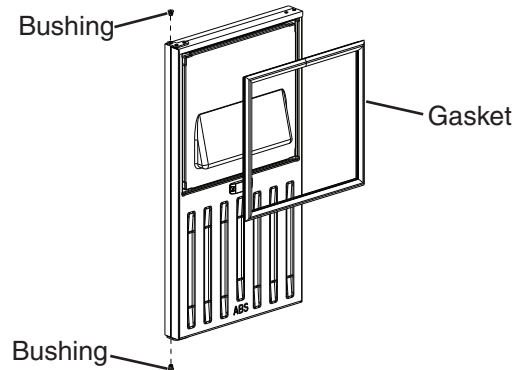

**Fig. 25**
- 6) Fasten the sheet metal bracket to the bottom of the door with the three T2 screws provided. Tighten the screws to the door. See Fig. 25.